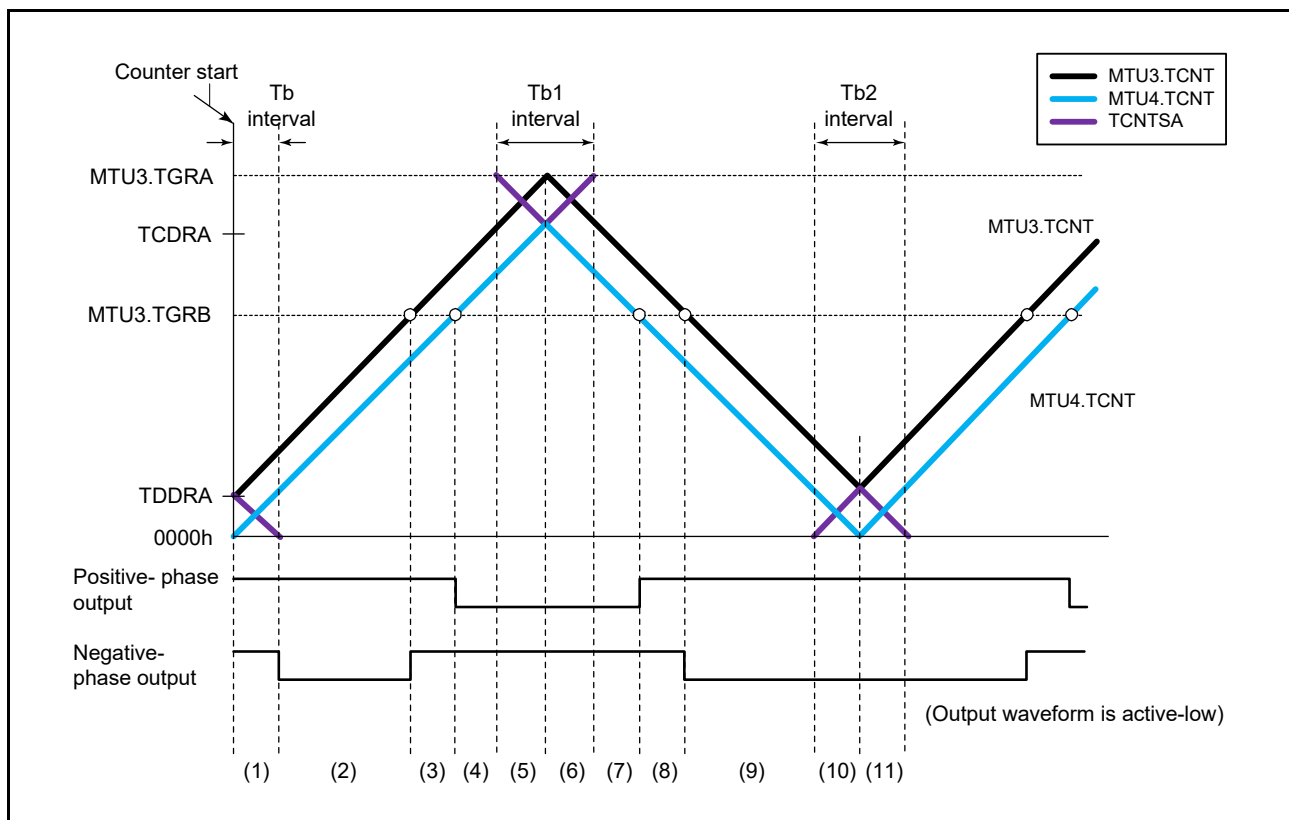
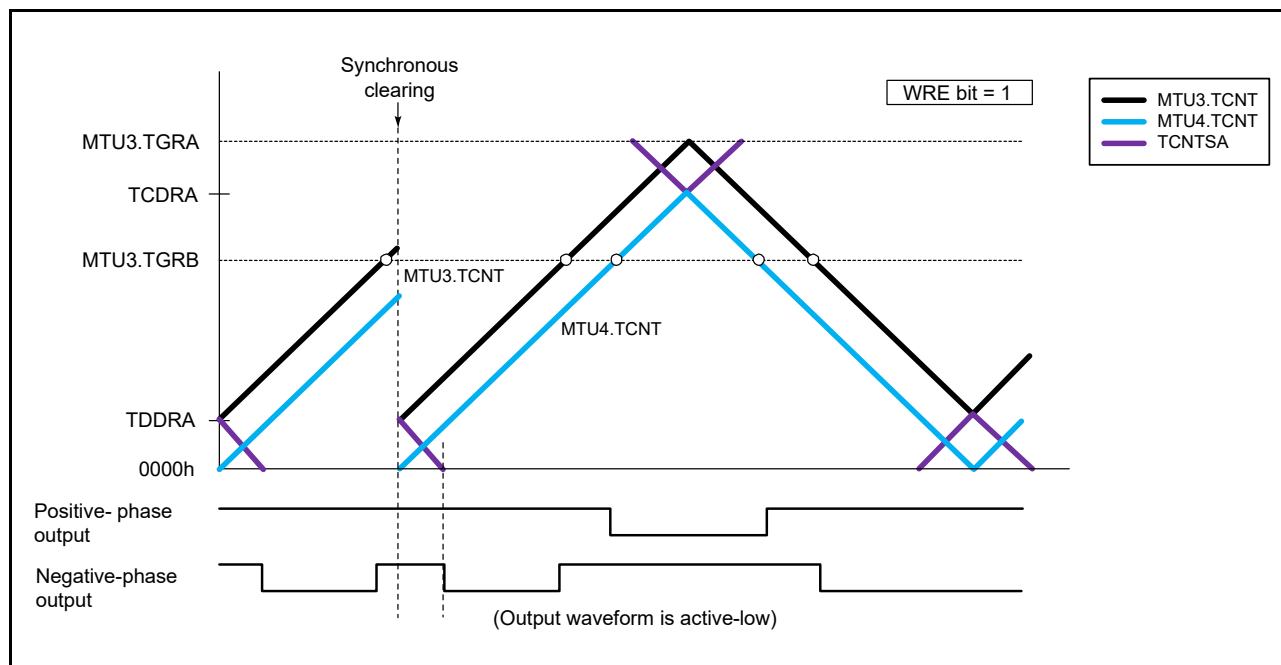
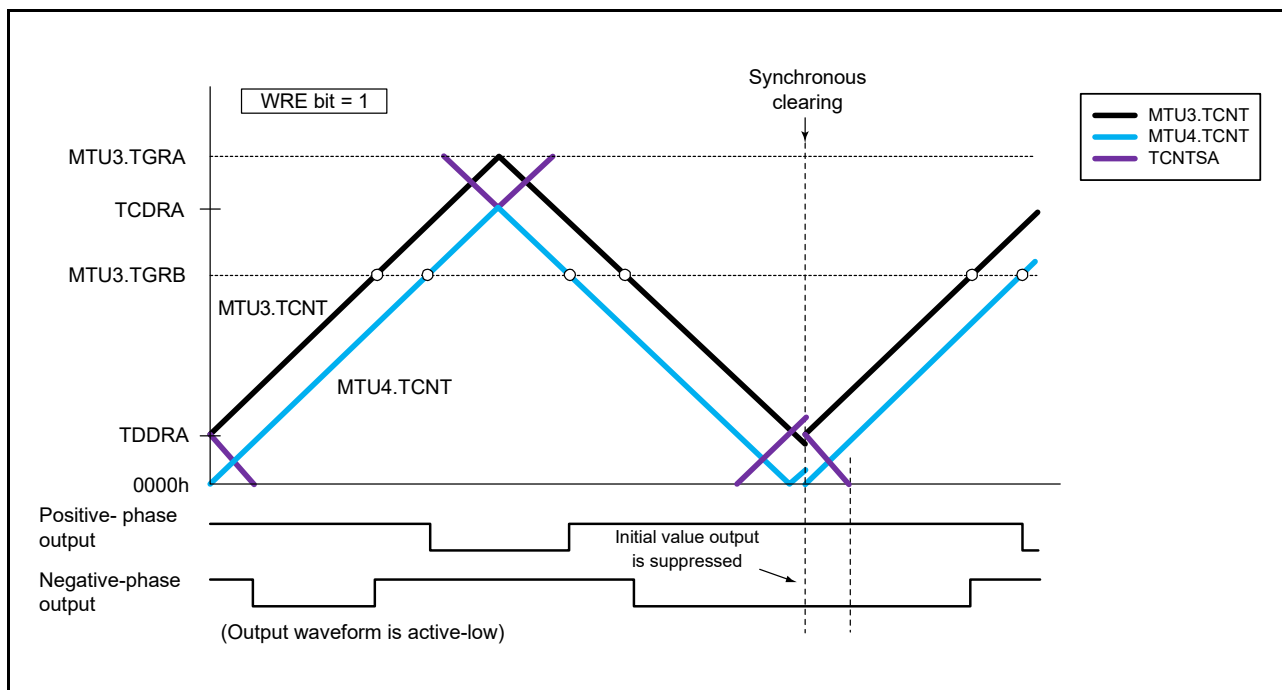

Figure 19.63 Timing for Synchronous Counter Clearing (MTU3 and MTU4)
**Figure 19.65** Example of Synchronous Clearing in Dead Time during Up-Counting
**Figure 19.68** Example of Synchronous Clearing in Tb2 interval (Timing (11) in Figure 19.63; TWCRA.WRE Bit is 1)
Initial output suppression through the WRE bit = 1 is applicable only when synchronous clearing occurs in the Tb2 interval as indicated by (10) or (11) in Figure 19.63. When synchronous clearing occurs outside that interval, the initial value specified by the OLSN and OLSP bits in TOCR1A is output. Even in the Tb2 interval, if synchronous clearing occurs in the initial value output period (indicated by (1) in Figure 19.63) immediately after the counters start operation, initial value output is not suppressed.
Figure 19.65 to Figure 19.68 show examples of output waveform control in which MTU3 and MTU4 operate in complementary PWM mode and synchronous counter clearing is generated while the WRE bit in TWCRA is set to 1. In the examples shown in Figure 19.65 to Figure 19.68, synchronous counter clearing occurs at timing (3), (6), (8), and (11) shown in Figure 19.63, respectively.
(Timing (3) in Figure 19.63; TWCRA.WRE Bit is 1)
(Timing (6) in Figure 19.63; TWCRA.WRE Bit is 1)